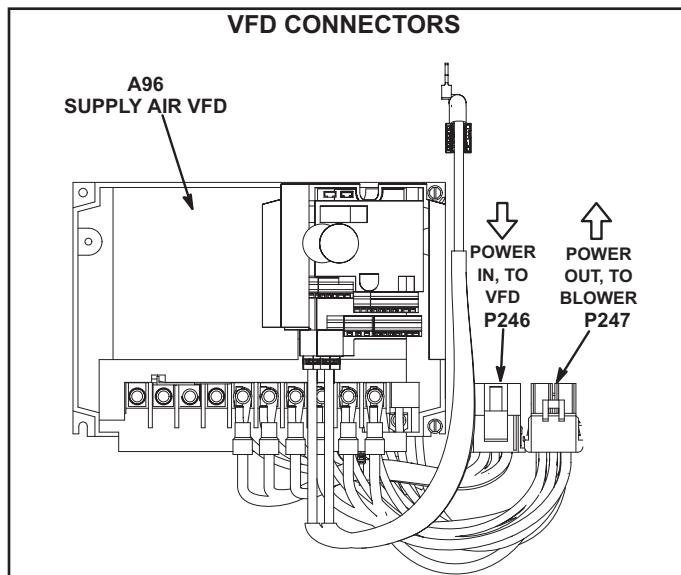

FIGURE 45
- 2 - Locate P246 and P247 connectors near the VFD. See FIGURE 45.